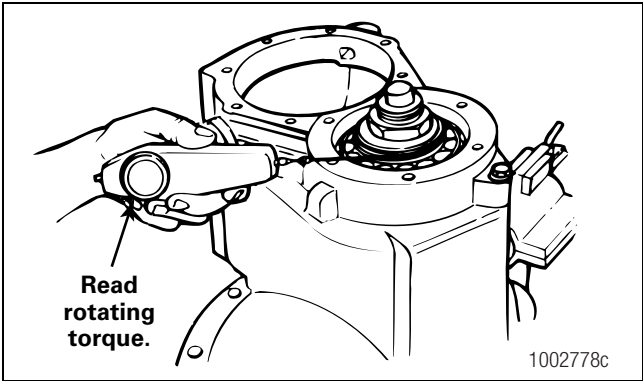

Figure 5.17
- 3. Pull the spring scale and cord in a horizontal direction while looking at the reading on the spring scale. Figure 5.17.